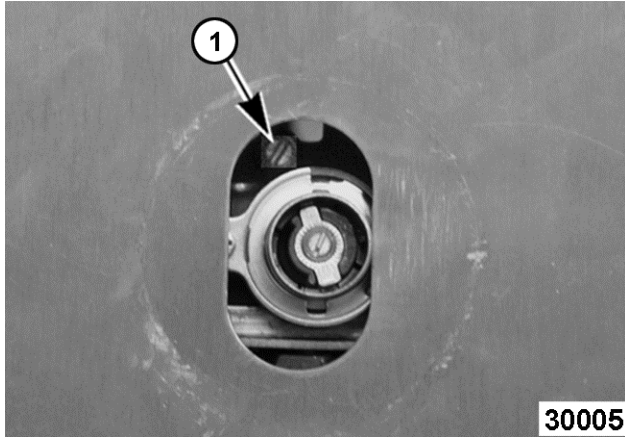

Fig. 83
6. With a small flat edge screwdriver, turn by-pass flame adjustment screw Fig. 83 counterclockwise to increase by-pass flame or clockwise to decrease flame until both legs of burner have approximately 1/8" stable flame on each port. Ports should be set to just above "flickering".